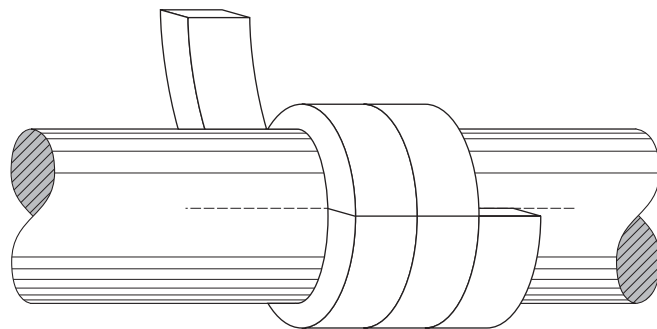

FIGURE 1 — Butt Joint
8. Remove from mandrel and skive or butt cut the packing (**See Figures 1 and 2**). Use a sharp knife; using a dull knife will result in unraveling of the cut ends and cause greater leakage.